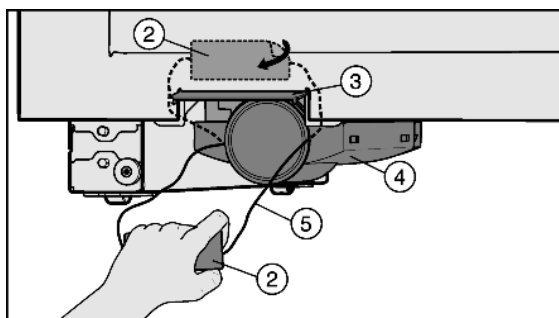

Fig. 60
- ▶ Remove any labels Fig. 60 (2) from the appliance.
- ▶ Open the filter change flap Fig. 60 (3).
- ▶ Carefully pull out drawer Fig. 60 (4) by the string Fig. 60 (5).
- ▶ Cut off the string Fig. 60 (5) together with the label Fig. 60 (2) and pull out. It is no longer required and can be disposed of.
- ▶ Close the filter change flap Fig. 60 (3).